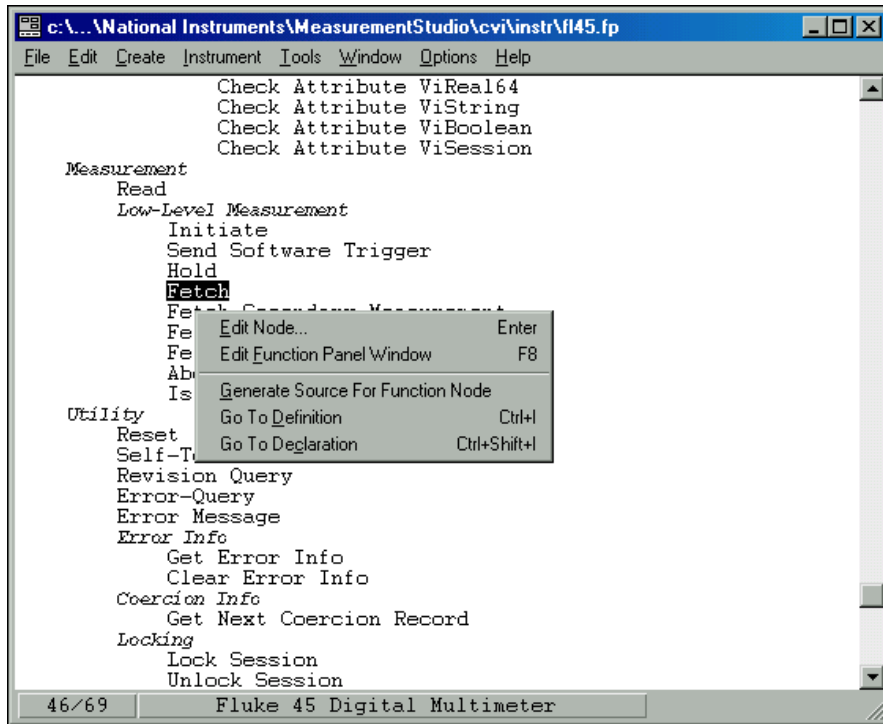

Figure 5-17. Function Tree Editor Context Menu
2. Scroll down to the Fetch function. Right-click the Fetch function to display the context menu as shown in Figure 5-17.